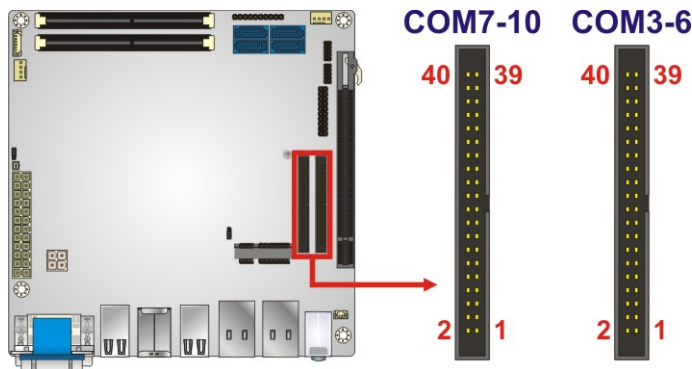

Figure 3-11: Serial Port Connector Pinout Locations
- CN Location:** See **Figure 3-11**